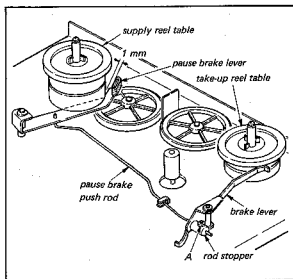

Fig. 4-15. Rewind idler replacement
- If this condition does not exist, turn nut "A" and adjust the Rod Stopper shown in Fig. 4-15.